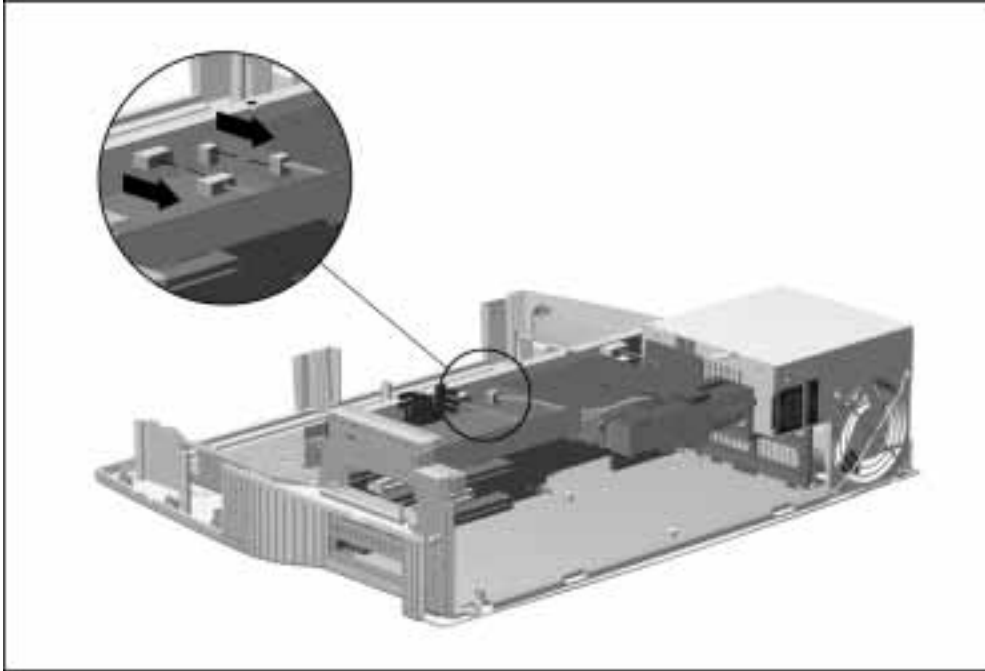

Figure 5-51. *Disconnecting the Mechanism Assembly Cables*
8. Disconnect the two mechanism assembly cables from the backplane assembly (Figure 5-51).